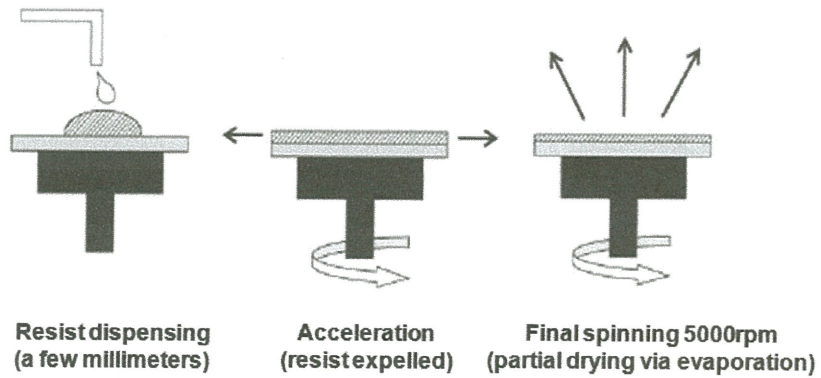

Figure Q3(a)
- (ii) Analyse **TWO (2)** elements that can contribute to the photoresist thickness during the coating process as shown in **Figure Q3(a)**. (4 marks)